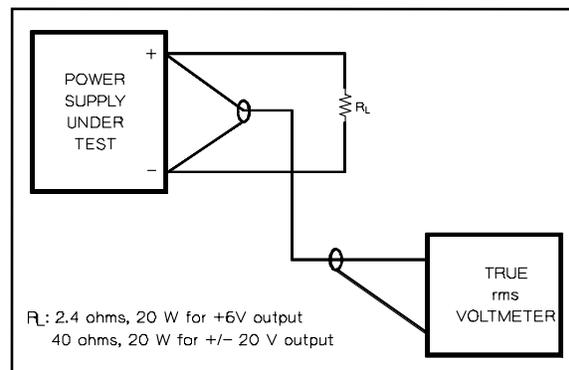

Figure A-7. Ripple and Noise rms Measurement Test Setup
- a. Connect the test equipment across the output of the +20V supply as shown in Figure A-7.
- Connect the test equipment across the output of the +20V supply as shown in Figure A-7, but replace the true rms voltmeter with the oscilloscope.